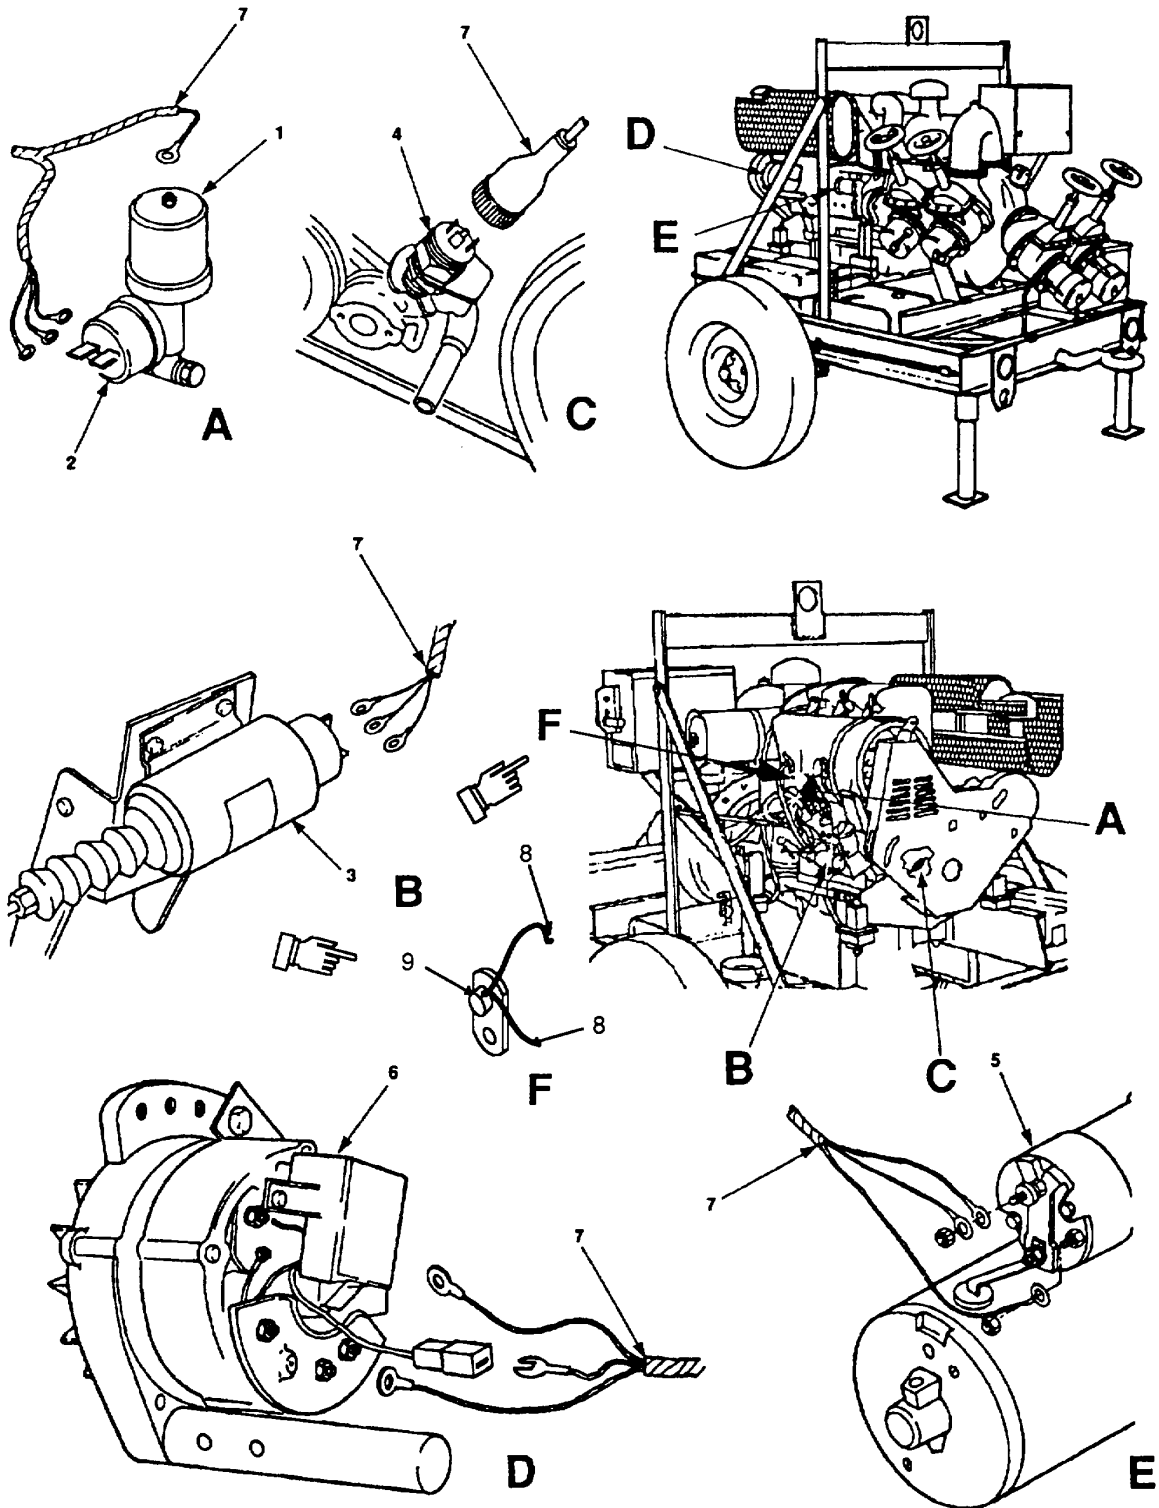

Figure 4-40. Wiring Harness Replacement.
- (2) Wires connected to oil sending unit (Figure 4-40, view A, 1).
- (3) Wires connected to low oil pressure switch (2).
- (4) Wires connected to V-belt contact switch (view C, 4).
- (5) Wires connected to starter solenoid (view E, 5).
- (6) Wires connected to alternator (view D, 6).
- (7) Wires connected to temperature switch(view F, 8).
- b. Remove harness assembly (7).
- (4) Wires connected to fuel shut-off solenoid (view C, 3).
- (5) Wires connected to V-belt contact switch (view C, 4).
- (6) Wires connected to starter solenoid (view E, 5).
- (7) Wires connected to alternator (view D, 6).
- g. Remove wiring harness assembly (7).
- a. Position and secure wiring harness assembly (Figure 4-40, 7) on engine with clamps then connect the wiring harness as follows:
- (1) Connect wires to alternator (view D, 6) and remove tags.
- (2) Connect wires to starter solenoid (view E, 5) and remove tags.
- (3) Connect wires to V-belt contact switch (view C, 4) and remove tags.
- (4) Connect wires to fuel shut-off solenoid(3) and remove tags.
- (5) Connect wires to low oil pressure switch (view A, 2) and remove tags.
- (6) Connect wires to oil sending unit (view A, 1) and remove tags.